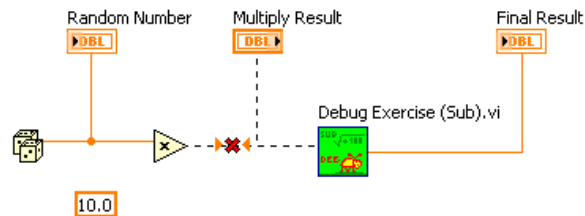

Figure 1.33
1. Select Window>>Show Block Diagram to display the block diagram shown in Figure 1.33.